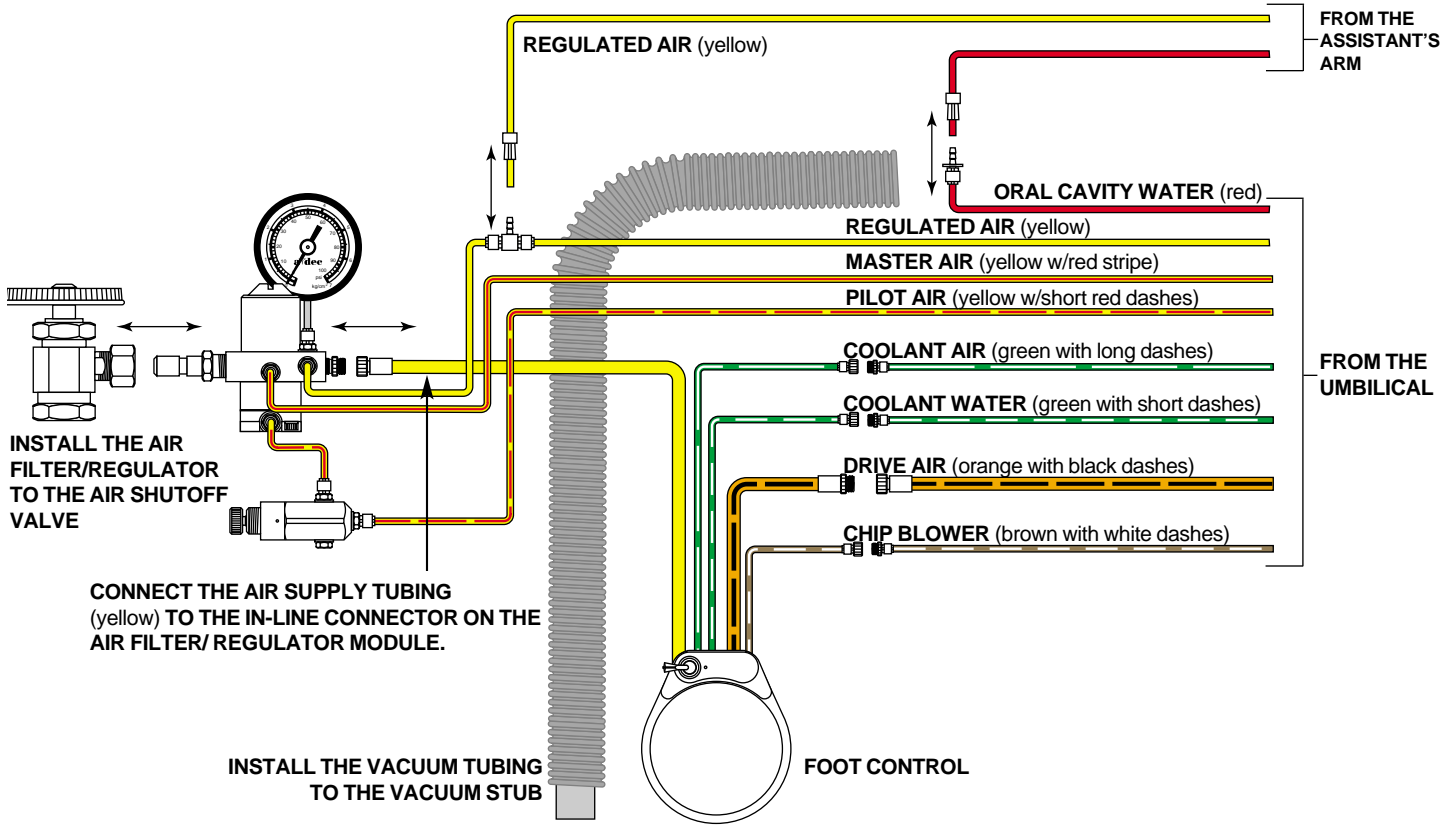

FIGURE 13
1. Connect the foot control tubing to the umbilical tubing from the control head (see Figure 13).
2. Connect the tubing as necessary (see Figure 13).